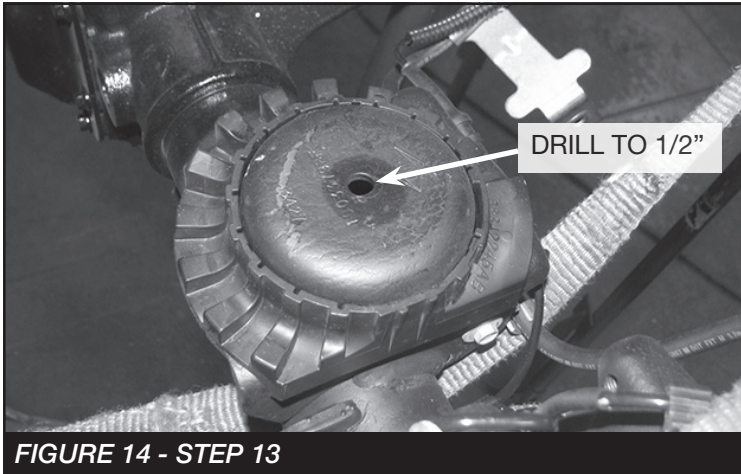

FIGURE 14 - STEP 13
13. Locate the factory coil spring perch. Using a drill with a 1/2" drill bit, drill out the existing factory hole. Repeat on passenger side. **SEE FIGURE 14**